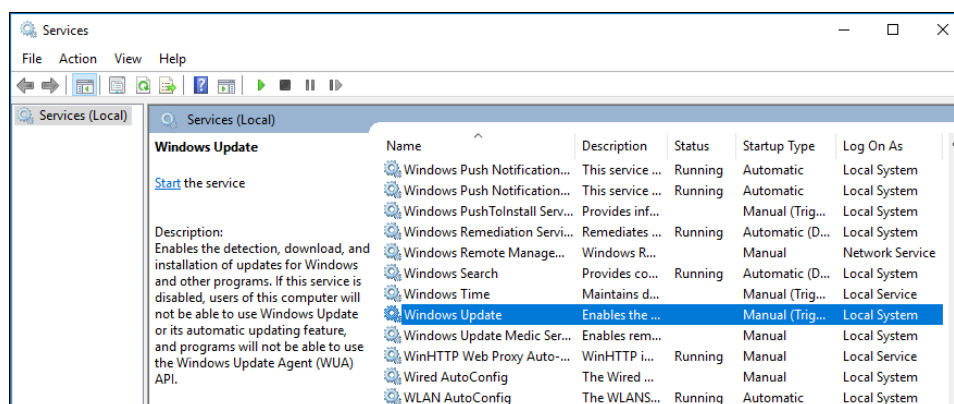

Figure 6-1. Services dialog
Windows displays the Services dialog (Figure 6-1).
5. In the Services dialog, scroll down and double-click the **Windows Update** service (Figure 6-1).